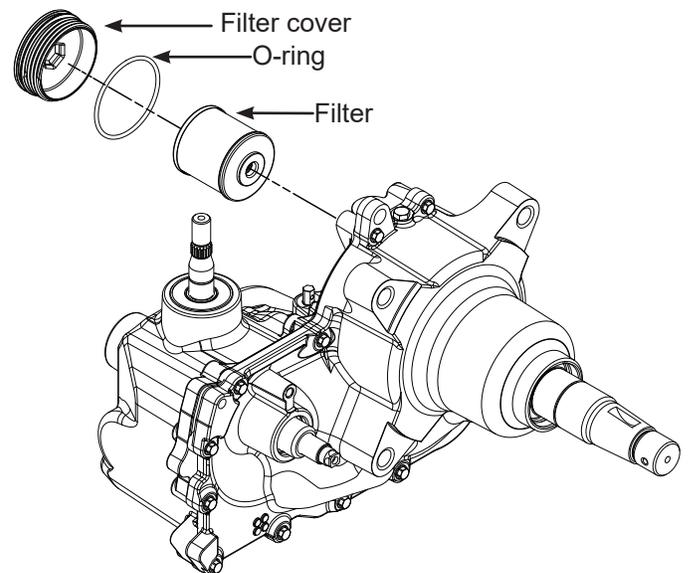

Figure 3a, Filter Components
3. Install a new filter (Hydro-Gear part number 72537 or equivalent) and a new O-ring onto the filter cover and install the filter cover. See Figure 3a. See page 15 for torque specifications.